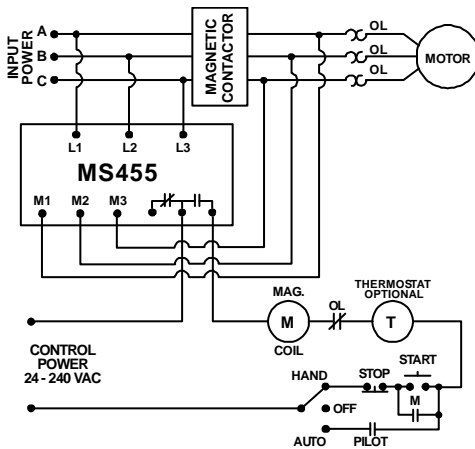

Figure 1. 3-Pole Contactor Wiring Diagram
4. Connect the output relay to the circuitry to be controlled. Connect the normally open contact in series with the magnetic coil of the motor starter as shown in Figure 1.